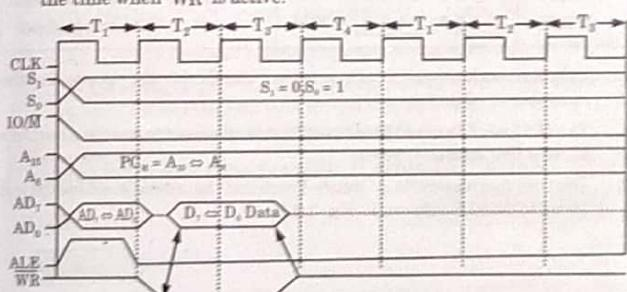

Fig. 2.8.3. Memory write timing diagram.
4. This ensures that the memory or port has valid data while  $\overline{WR}$  is active, it is clear from Fig. 2.8.3.